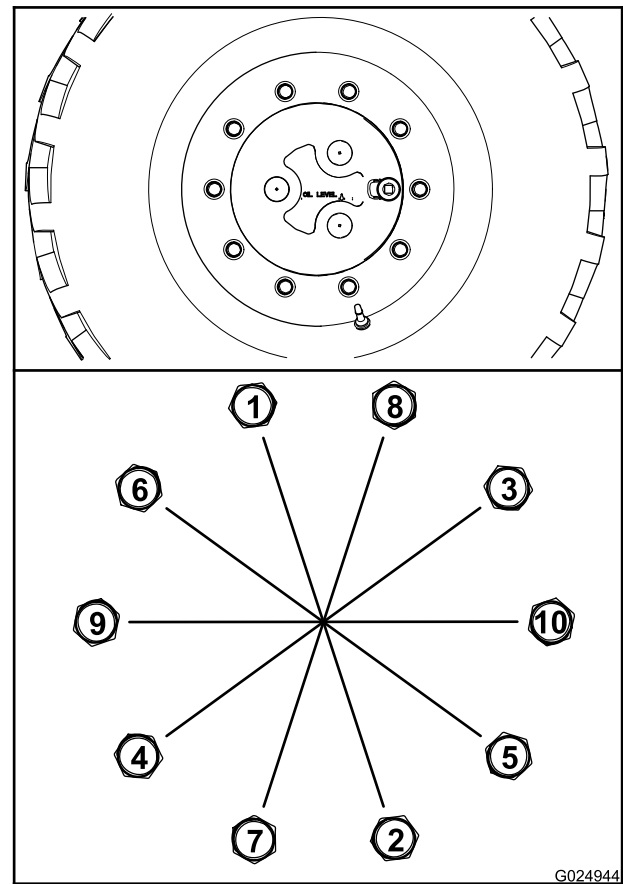

Figure 83
- B. Torque all the nuts to 200 N-m (150 ft-lb) in the sequence shown in Figure 83.
- C. Torque all the nuts to 300 N-m (225 ft-lb) in the sequence shown in Figure 83.
- A. Torque the all wheel nuts to 100 N-m (75 ft-lb) in the sequence shown in Figure 83.